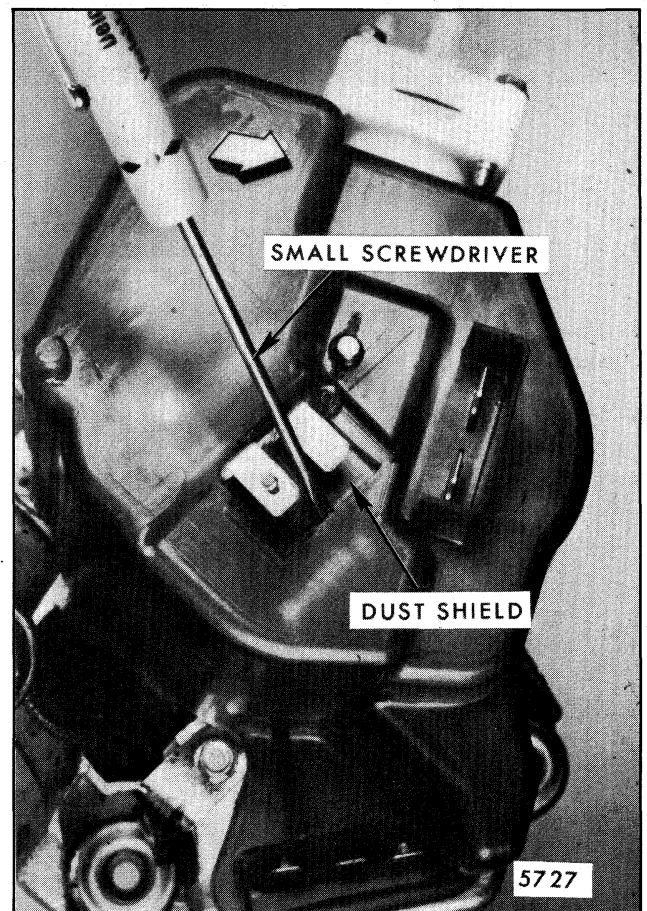

Fig. 2-131-Washer Pump Cover Removal
2. Remove plastic tab from terminal 6 and 7 opening and pull plastic cover off mounting post (Fig. 2-131).